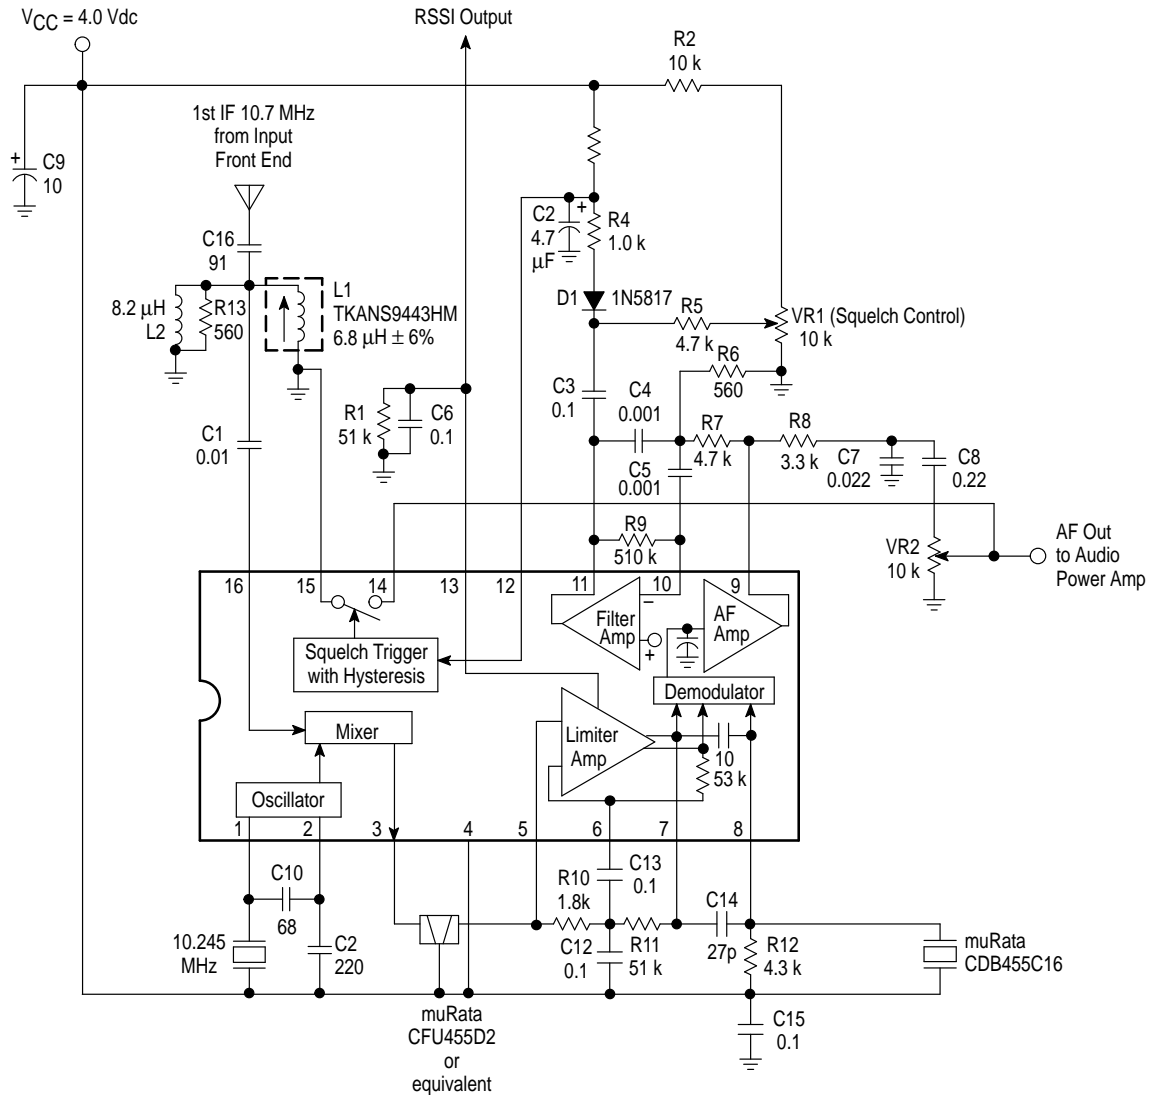

Figure 13. Typical Application for MC3372 at 45 MHz
**OPERATING CONDITIONS**  $V_{CC} = 4.0 \text{ Vdc}$ ,  $R_{FIN} = 100 \mu\Omega$ ,  $f_{mod} = 1.0 \text{ kHz}$ ,  $f_{dev} = 3.0 \text{ kHz}$ . MC3372 at  $f_{RF} = 45 \text{ MHz}$  (see Figure 13).
The oscillator is an internally biased Colpitts type with the collector, base, and emitter connections at Pins 4, 1 and 2 respectively. This oscillator can be run under crystal control. For fundamental mode crystals use crystal characterized parallel resonant for 32 pF load. For higher frequencies, use 3rd overtone series mode type crystals. The coil (L2) and resistor RD (R13) are needed to ensure proper and stable operation at the LO frequency (see Figure 13, 45 MHz application circuit).